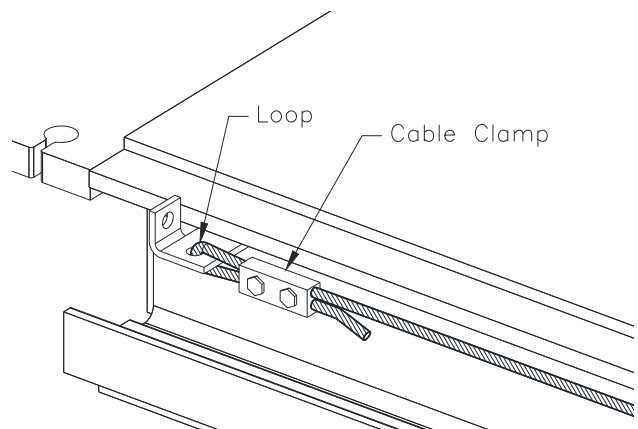

Figure 9
13. Route cable thru both spiral flex air lines. On opposite end of runway, route cable thru hole in Cable Bracket and attach Cable Clamp as shown in **Fig 9**.